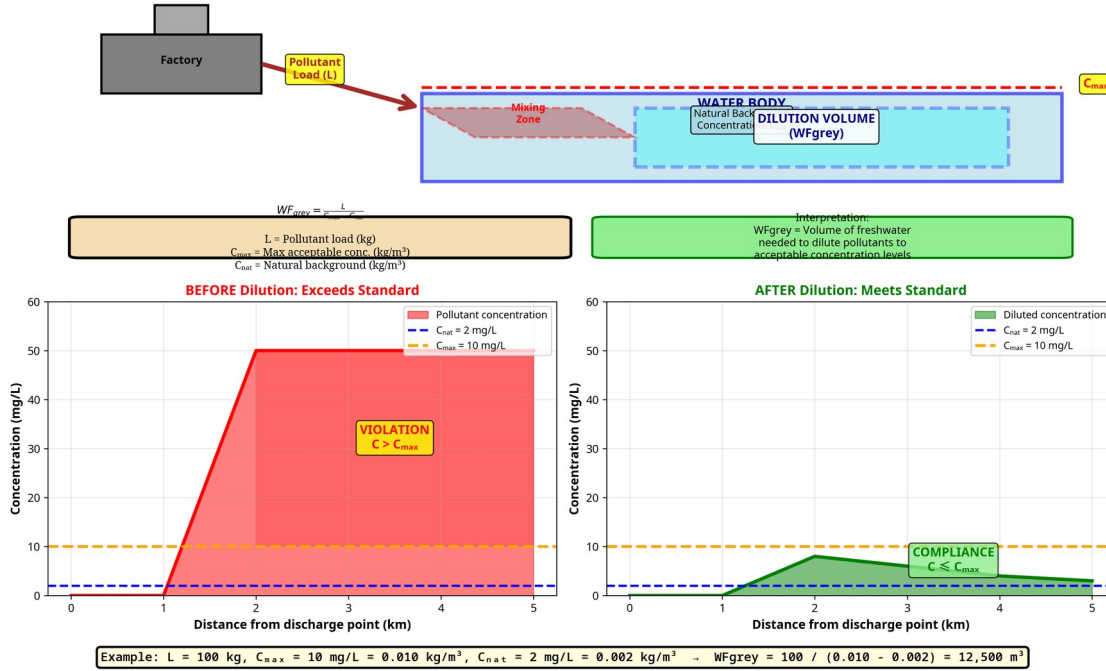

Figure 3.1: Grey Water Footprint Concept
**Figure 3.1:** The grey water footprint concept showing the dilution volume required to assimilate pollutants. The top panel illustrates the conceptual model with pollutant discharge, mixing zone, and dilution volume. The bottom panels show concentration profiles before and after dilution, demonstrating compliance with water quality standards.